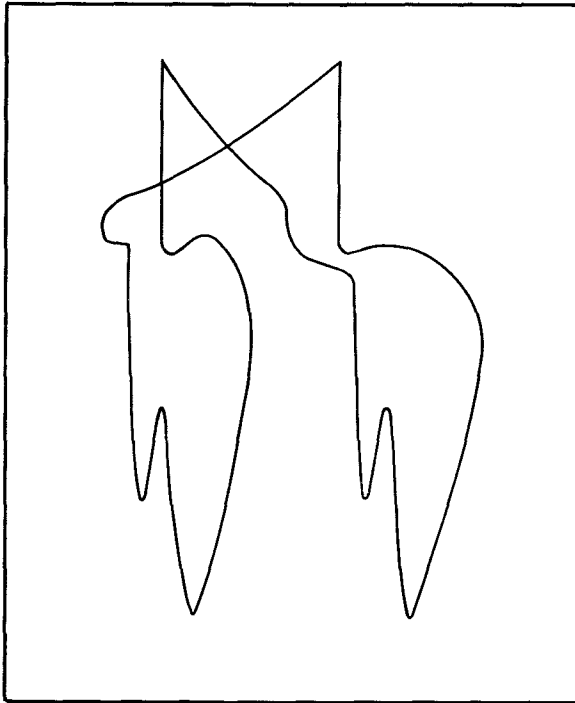

Figure 6-1. 98.35-kc Measurement Pattern
e. Obtain a 2:1 Lissajous figure on synchroscope (see figure 6-1) by tuning frequency meter in the vicinity of 196.7 kc. When the pattern is essentially stationary, read the frequency setting of the frequency meter. It should be 196.7 \pm 0.1 kc.